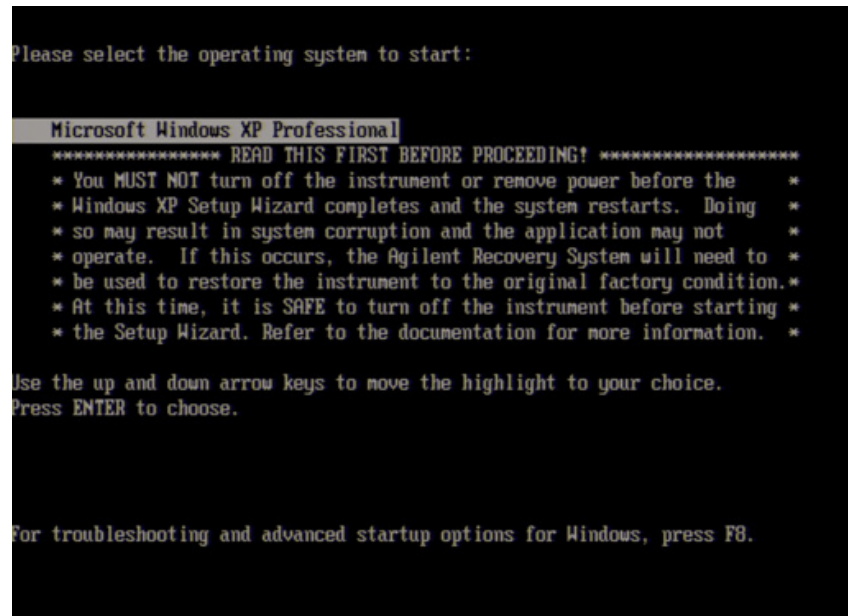

Figure 7 System start up screen in Windows XP Pro for Embedded Systems (2/2)
Step 3. The screen as shown in the Figure 7 appears. Press **[Enter]**.